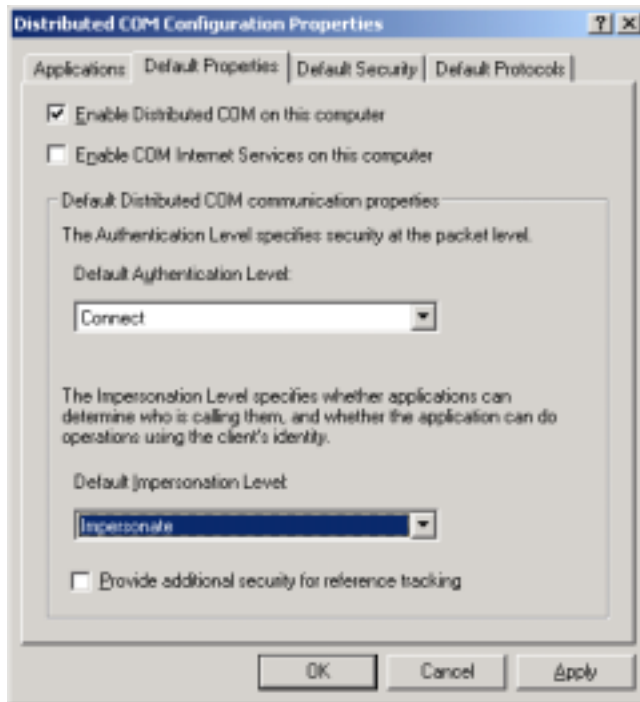

Figure 5.14g
7. Finally, click the Default Properties tab and choose "connect" for Default Authentication and "impersonate" for Default Impersonation. (See Figure 5.14g below)